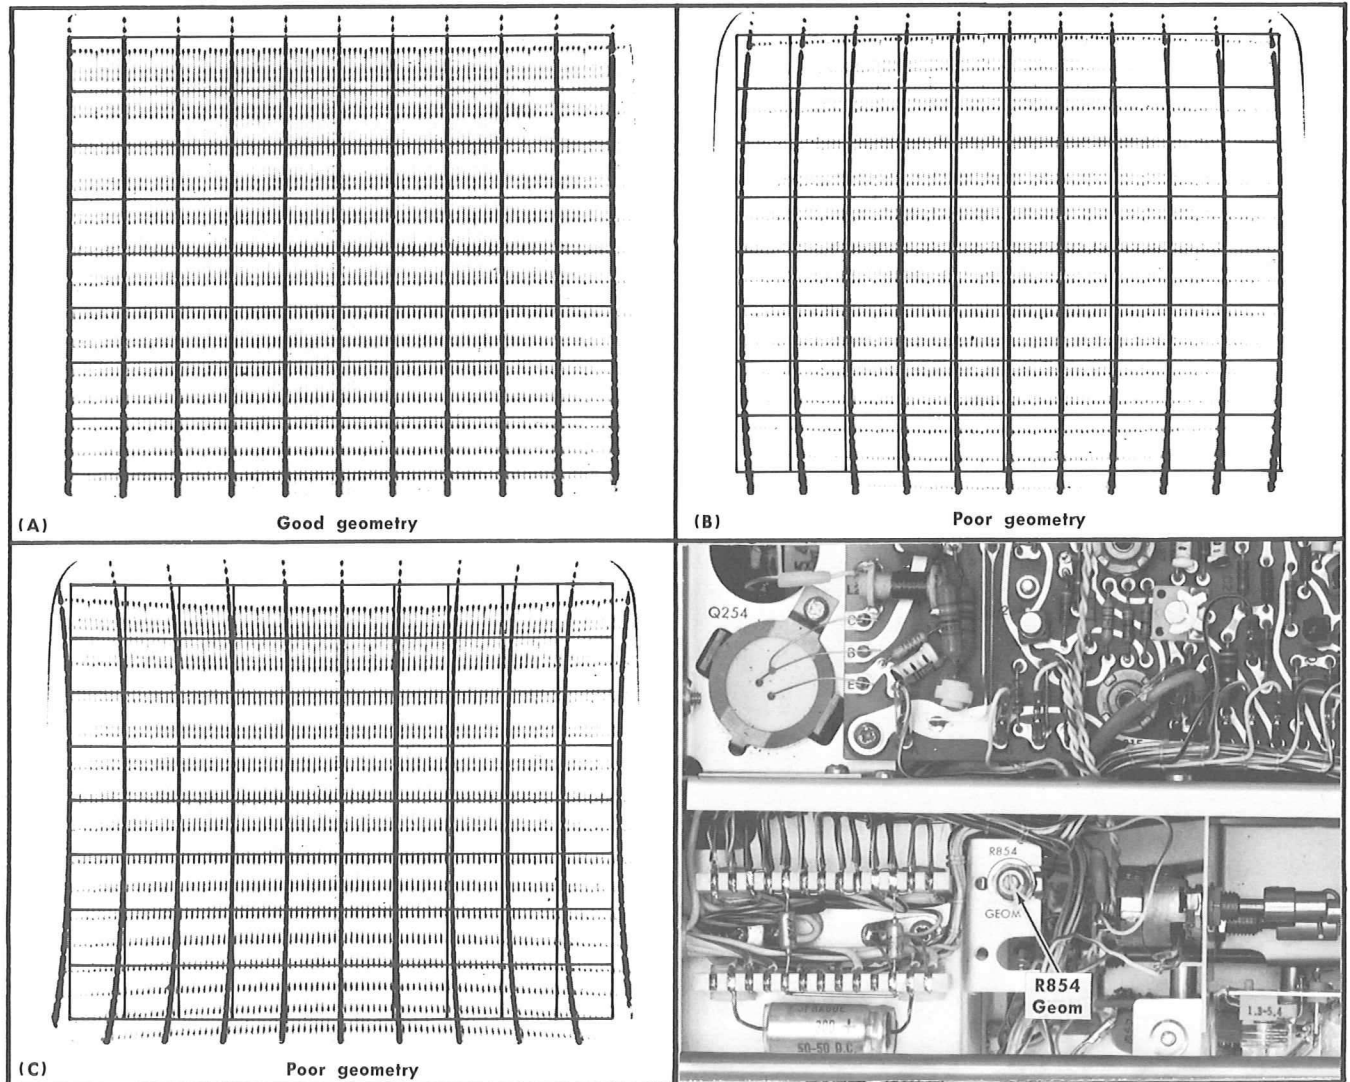

Fig. 5-11. (A) Typical CRT display of good geometry, (B) and (C) poor geometry, (D) location of Geom adjustment (left side).
b. CHECK—CRT display for 0.1 division or less bowing of the markers at the left and right edges of the graticule. Fig. 5-11 shows a typical display with good geometry as well as examples of poor geometry.